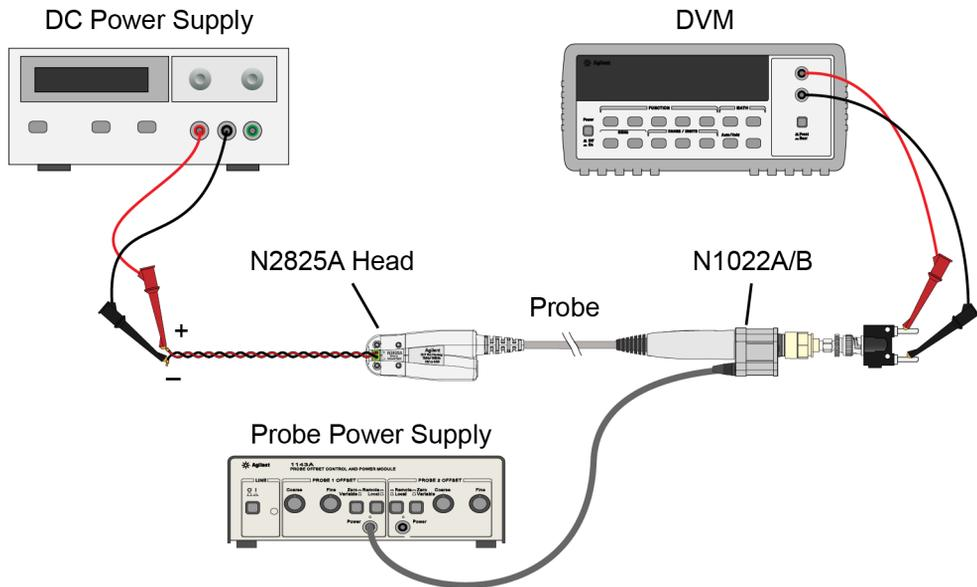

Figure 52 Test Setup for Measuring  $V_{out}$
- 4 Move the multimeter's leads to the banana plug on the output of the N1022A/B as shown in Figure 52.
- 10 Connect the multimeter's leads to the banana plug on the output of the N1022A/B as shown in Figure 52 on page 104.